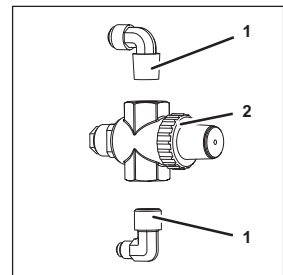

Fig. 74
3. Disconnect the fittings (Fig. 74/1) from the water pressure control valve (Fig. 74/2).
4. Apply thread adhesive to the threads of the fittings (Fig. 74/1) and attach the fittings (Fig. 74/1) to the new water pressure control valve (Fig. 74/2).